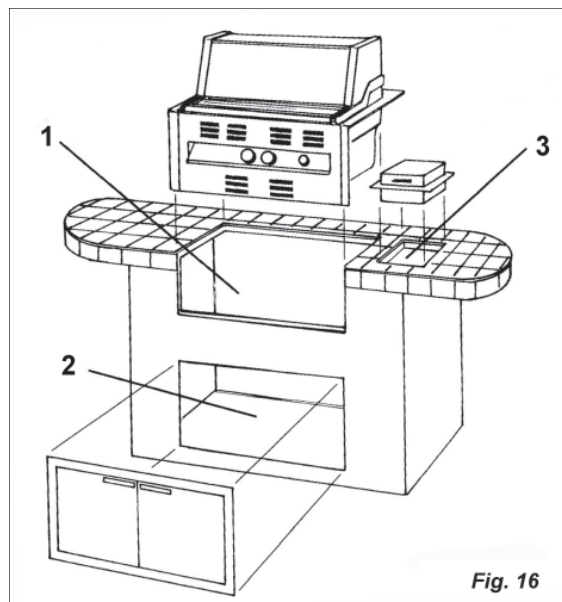

Fig. 16
Step 1: Required Dimensions For Built-In (Fig. 16)